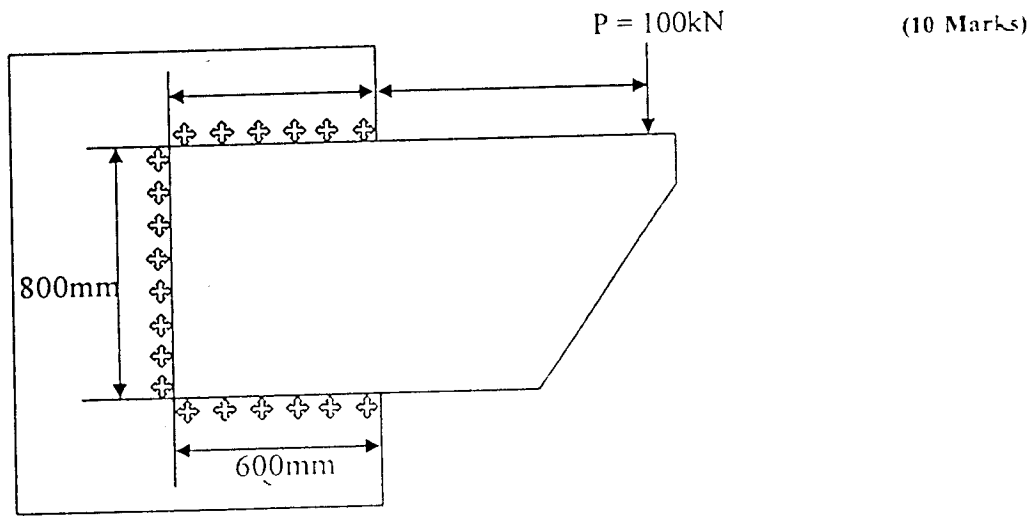

Fig. 8(b)
- 8 a. Determine the maximum stresses induced in the worst stressed rivet in a riveted joint loaded as shown in Fig. 8(a). (10 Marks)
- b. Determine the weld size for a welded joint as shown in Fig. 8(b).